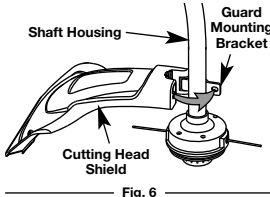

Fig. 6
1. Place the cutting head shield onto the shaft housing. Be sure the guard mounting bracket slides into the slot on the edge of the cutting shield. Rotate the shield into place, counterclockwise. The holes in the guard mounting bracket and cutting head shield will line up (Fig. 6).